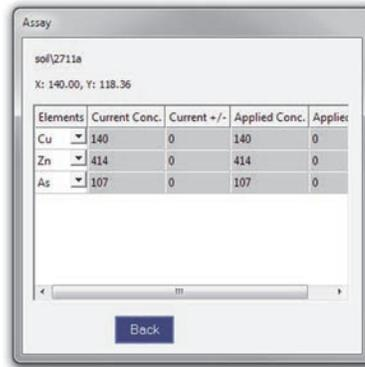

Figure 6-15 The Assay dialog box
- ◆ Double click on a point on the graph to display the **Assay** dialog box (see Figure 6-15 on page 91).